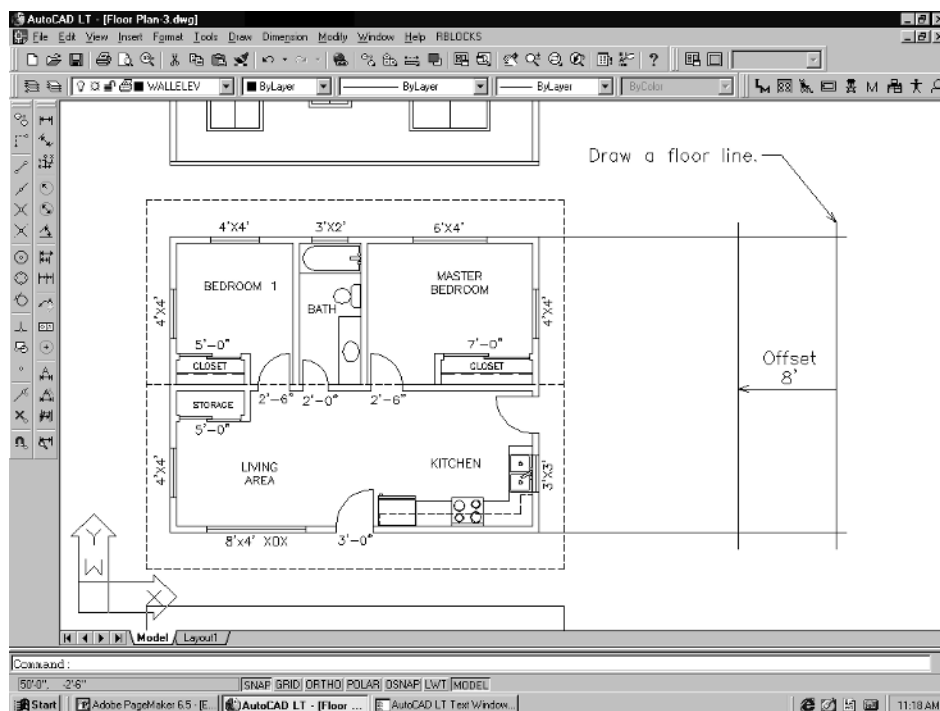

Figure 4-19
2. Use the Line command and start drawing the elevation by picking the upper right wall corner. Pull your cursor left, type **25'**, and **Enter**. Do the same for the bottom right wall corner. Next, draw a line near the end of these lines to represent the floor line, and then offset it **8'** to the left. See Figure 4-19.